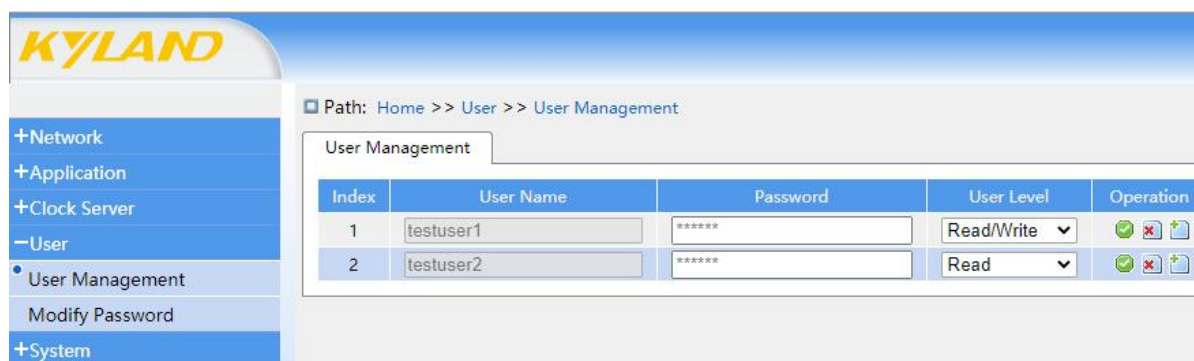

Figure 60 Creating A New User
1. Create a new user, as shown in Figure 60: